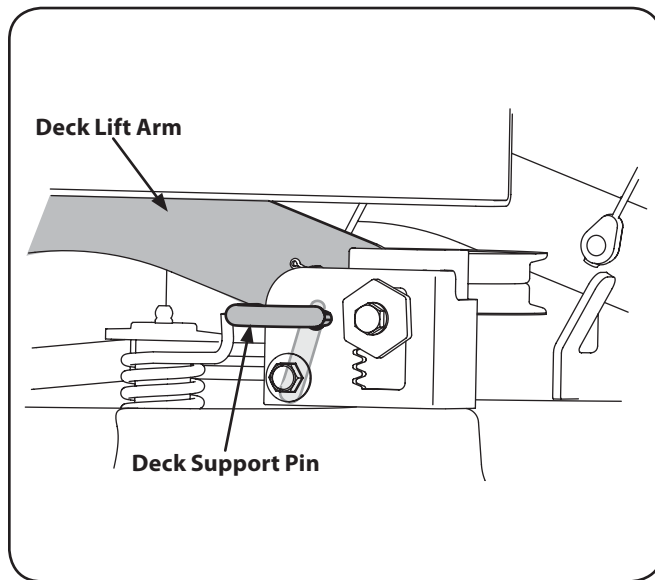

Figure 7-1
3. Looking at the cutting deck from the left side of the tractor, locate the deck support pin on the rear left side of the deck. Refer to Fig. 7-1.
4. Pull the deck support pin outward to release the deck from the deck lift arm. Pivot the support pin handle downward to lock the pin in the disengaged position. Refer to Fig. 7-1.
5. Move to the right side of the tractor and repeat the previous step to release the deck from the RH lift arm. Fig. 7-1.